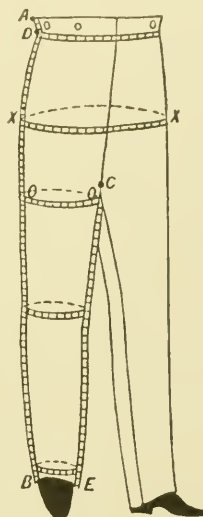

Fig. 1
**7. The First Measure.**—The outside length is taken from point D, which should be the top of the hip bone *always* (not from top of trousers), to point B, the sole of the shoe, near the front of the heel (see Fig. 1). If the customer should be very fleshy, and it is hard for you to locate the top of the hip bone, have the customer locate it for you.
**9. The Third Measure** is the waist. Standing in front of the customer, raise the vest in front and with the tape in the right hand follow the waistband around to the back, meeting it with the left hand; carry the tape to the front, and with the thumb of the left hand resting on the first inch, the thumb outward, carry the tape past with the right hand in a medium close measure, taking care that it is up above the hip bone, but on the trousers. (See Fig. 1, point D.) Call out the figures or mark it down.
12. **The Sixth Measure** is the thigh. The thigh is taken right below the trunk or body on the right leg, close up to the fork or crotch, and is taken close or *actual* measure of the thigh (marked O, Fig. 1).